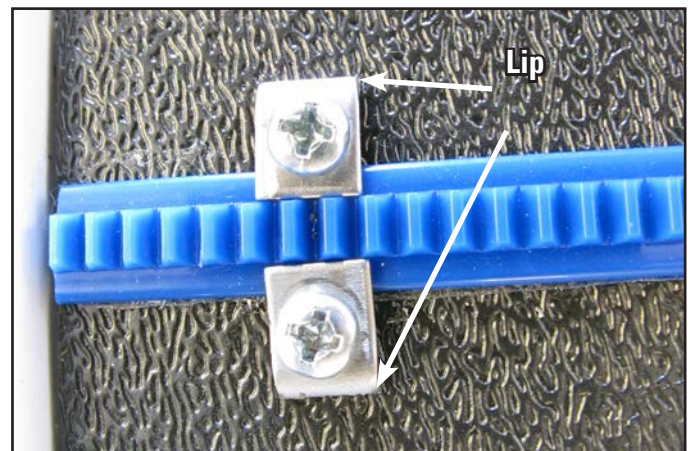

Figure 3.5
7. At the ends of the blue flexirack, use the four small metal clamps (*Page 3.3, B*) to hold the ends firmly in place (**Figure 3.5**). The clamps have a hole through the center and a lip on one end. The lip should be on the side opposite the blue flexirack. Drill pilot holes using the 3/32" drill bit and then attach the clamps as shown on either end of the blue flexirack using a Phillips screwdriver.